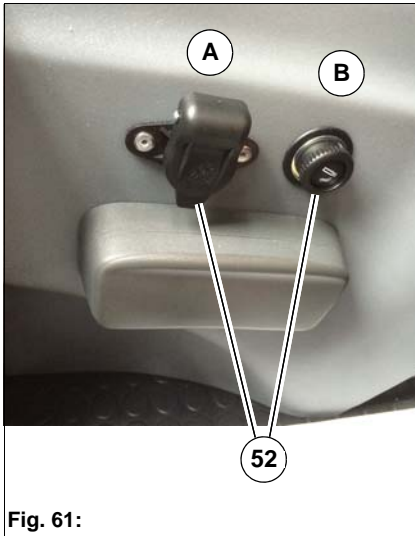

Fig. 61:
The 3-pin socket **Fig. 61-A** has the following functions:
- Push in the cigarette lighter **Fig. 61-B**.
- Pull out the cigarette lighter **Fig. 61-B** and store in an appropriate place.